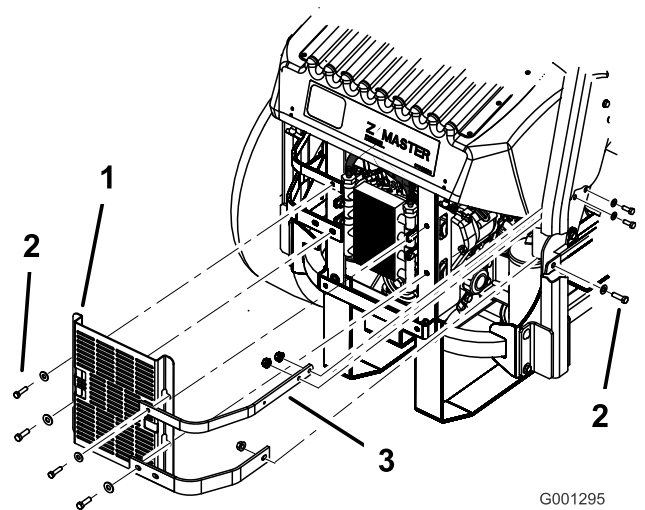

Figure 69
3. Remove the 4 bolts holding the oil cooler shield to the rear frame (Figure 69).
4. Remove the 3 bolts holding the engine straps to the side of the machine (Figure 69).
12. Install the oil cooler shield and engine straps to the rear frame with the 4 bolts previously removed (Figure 69).
13. Install the engine straps to the side of the machine (Figure 69).